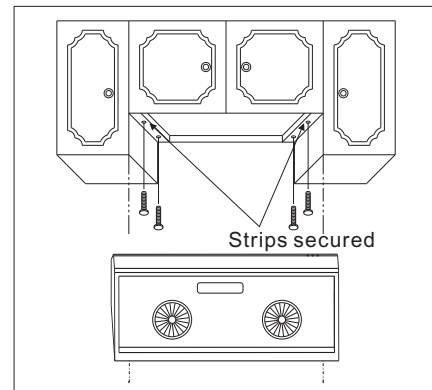

Fig.7
- c. Position the strips on the cabinet bottom and screw the strips securely to the cabinet (Fig.7)
- a. The six keyhole mounting slots for the hood. Mark these onto the bottom of the cabinet; or, if the cabinet bottom is recessed. Onto the wood strips (Fig.7)
- Screw the four 1" wood screws (for mounting the hood) into the exact center of the arrow and of the keyhole mounting slots marked on the cabinet bottom (for flush installations), or marked on the 1"x2" wood strips (for recessed cabinet installation) (Fig.7) Do not turn the mounting screws in all the way. Allow 3/8" of screw to project, so the hood can be fitted place.